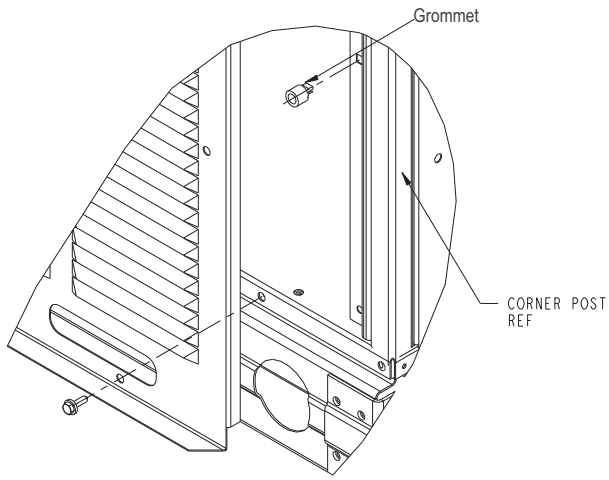

Fig. 2 - Grommets in Corner Post
4. Insert (4) plastic grommets in the square holes of each corner post as shown in Fig. 2.